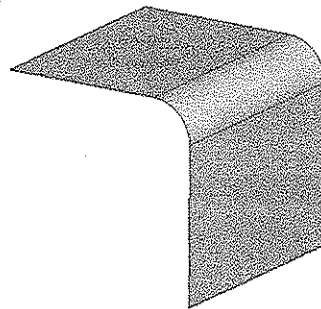

Figure 8-58 Patch created around the selected edge
6. Choose the **Generate** tool from the **Features** toolbar to generate the surface patch, as shown in Figure 8-58.